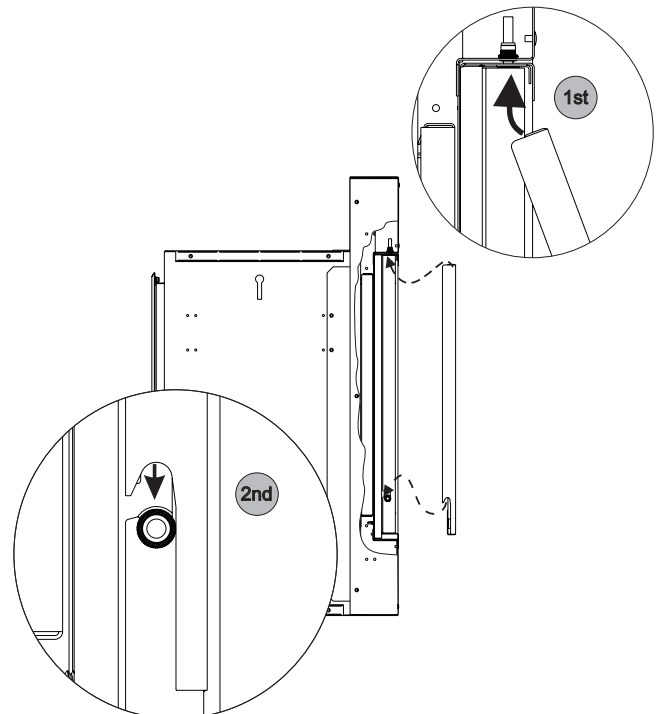

Figure 62
4. Insert the screen assembly into the top of the outer glass frame. Bring the bottom of the screen assembly against the face. Lower the screen assembly to catch the shoulder screw on the side of the glass. See Figure 62.